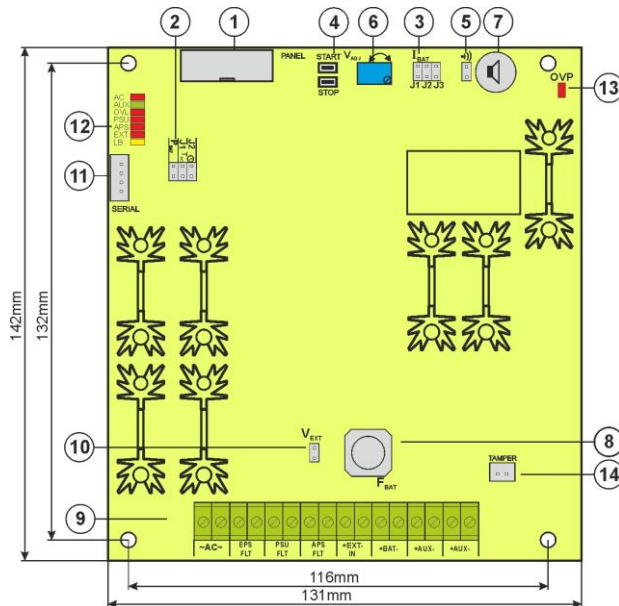

Fig. 2. The view of the PSU's PCB.
Table 1. Elements of the PSU pcb (see Fig. 2).
①	Insolation transformer
②	PSU board (see Tab.1, fig.2)
③	TAMPER ; micro-switch (contacts) of tamper resistance ( NC )
④	FMAINS fuse in the supply circuit (~230 V)
⑤	L-N power supply connector ~230 V,  protective connector
⑥	Battery connectors: positive: +BAT = red, negative: - BAT = black
⑦	Tamper grip